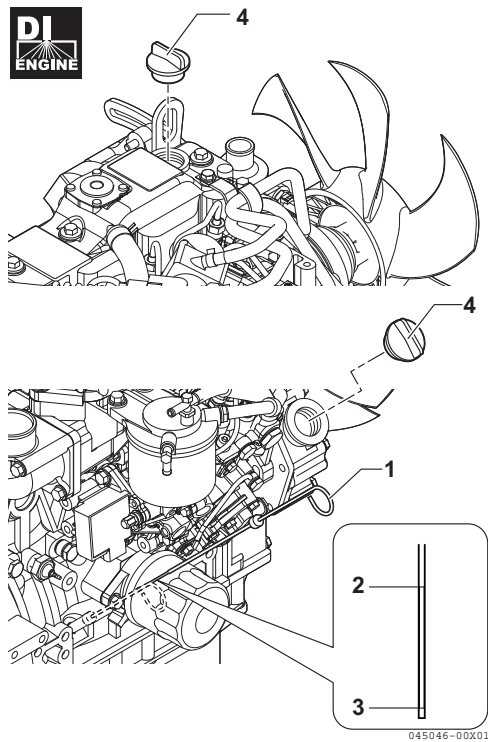

Figure 4
2. Remove dipstick (Figure 4, (1)) and wipe with clean cloth.
4. Remove dipstick. The oil level should be between upper (Figure 4, (2)) and lower (Figure 4, (3)) lines on the dipstick.
2. Remove oil cap (Figure 4, (4)).
3. Add indicated amount of engine oil at the top or side engine oil filler port (Figure 4, (5)).
6. Reinstall oil cap (Figure 4, (4)) and hand-tighten. Over-tightening may damage the cap.